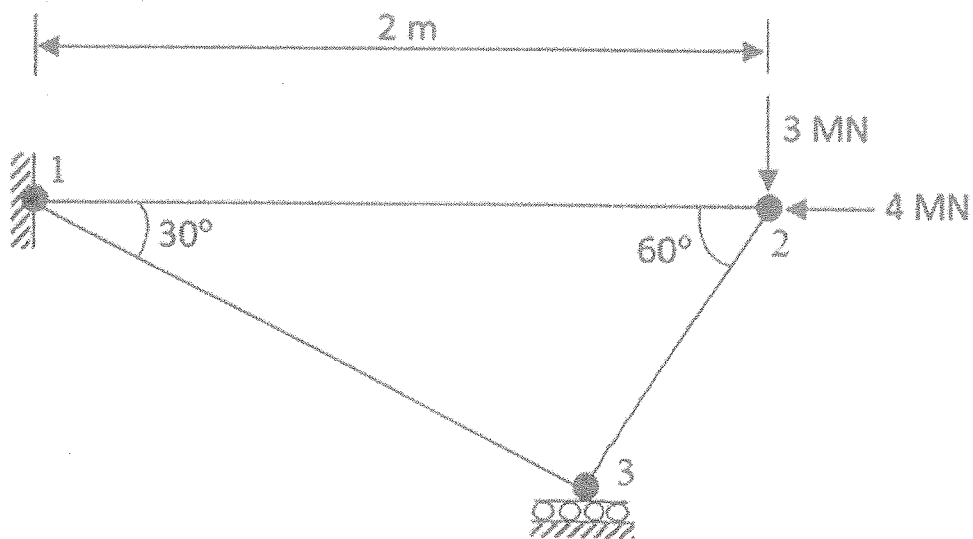

Fig. Q4
- Q4 A plane pin-jointed truss shown in Fig. Q4 is free to move horizontally on rollers at node 3 but it is not allowed to move vertically. It may also be assumed that the truss is firmly pinned at node 1 and the truss is loaded at free standing node 2 with 4 MN and 3 MN horizontal and vertical loads respectively. The material and geometrical properties of its members are as given below.